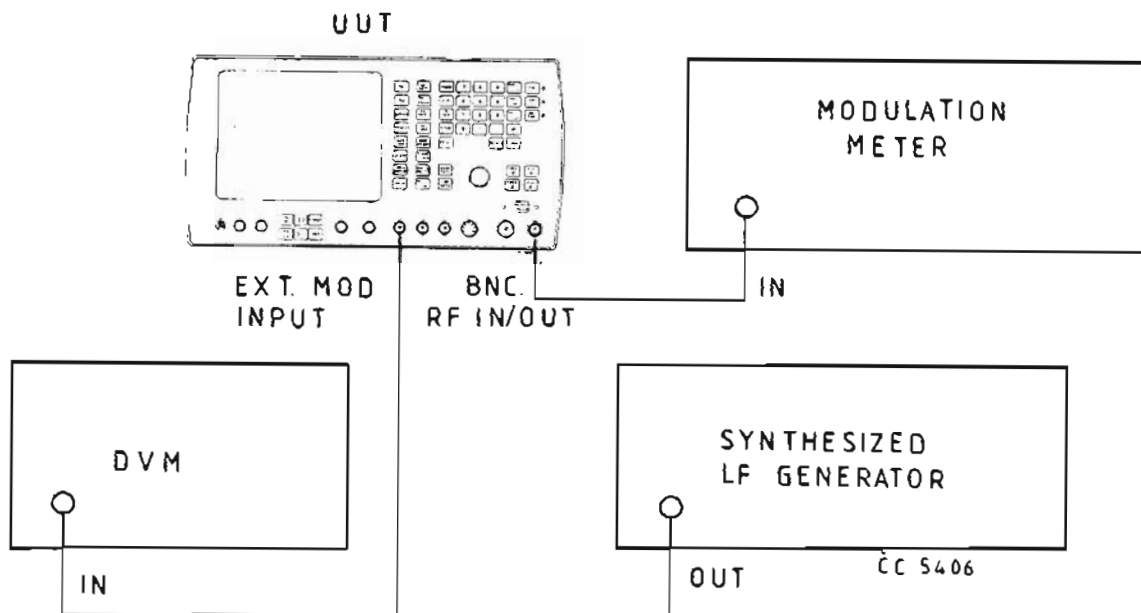

Fig. 24 Test equipment connections for r.f. generator external a.m. & f.m. performance checks
(1) Connect the equipment as shown in Fig. 24.